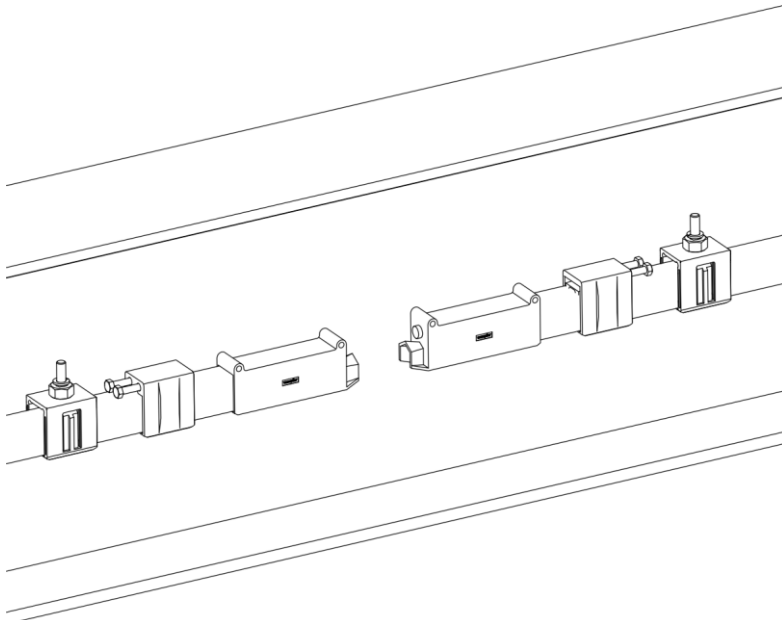

Fig. 92: The hanger clamp, anchor clamp and end cap are mounted on both rail ends
- Slide the hanger clamp and anchor clamp onto the second end of the rail and mount the end cap (see Fig. 92).